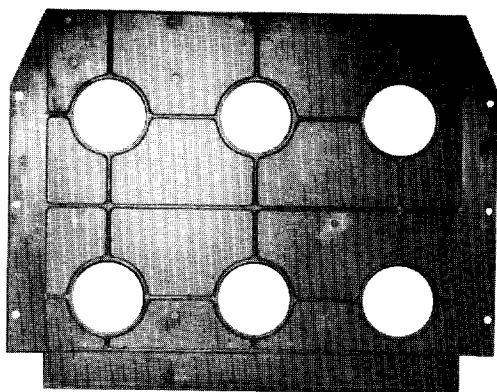

Fig. 19 Stationary Shutter
Mount stationary shutter (Fig. 19) to front surface of shutter angle with three (3) .25" x .75" (6.35mm x 19.05mm) self tapping screws and flat washers on each side.